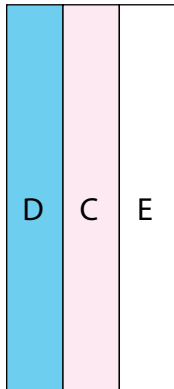

Fig. 1
1. Sew (1) $1\frac{1}{2}$ " x WOF Fabric D strip, (1) $1\frac{1}{2}$ " x WOF Fabric C strip and (1) $1\frac{1}{2}$ " x WOF Fabric E strip together lengthwise and in that order to make (1) DCE strip set (Fig. 1). Repeat to make a second DCE strip set.